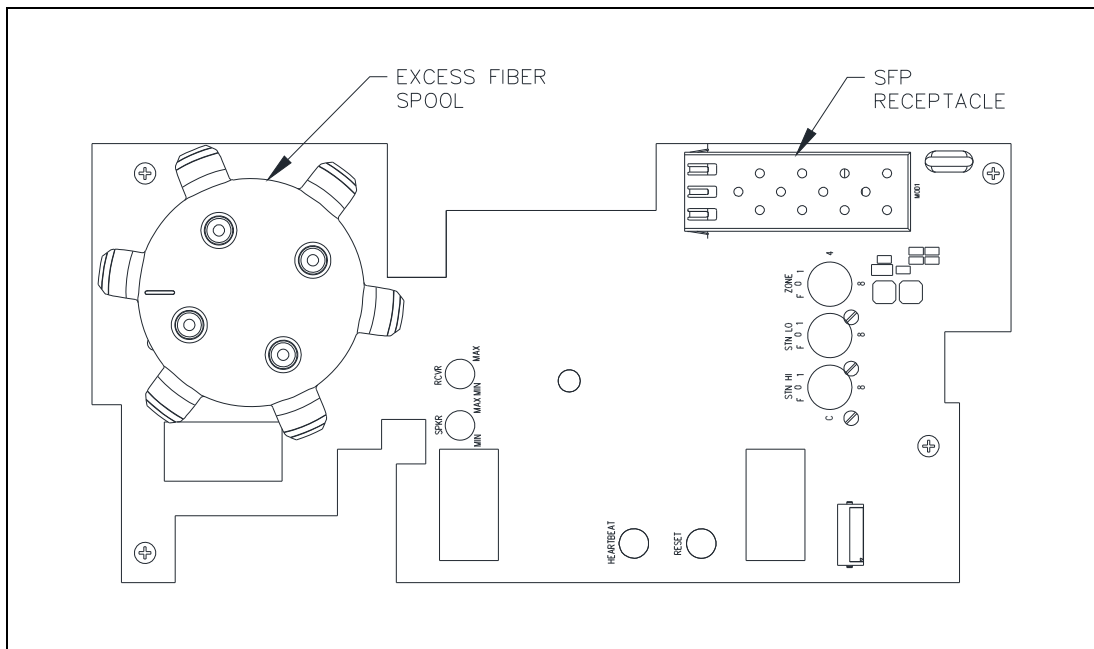
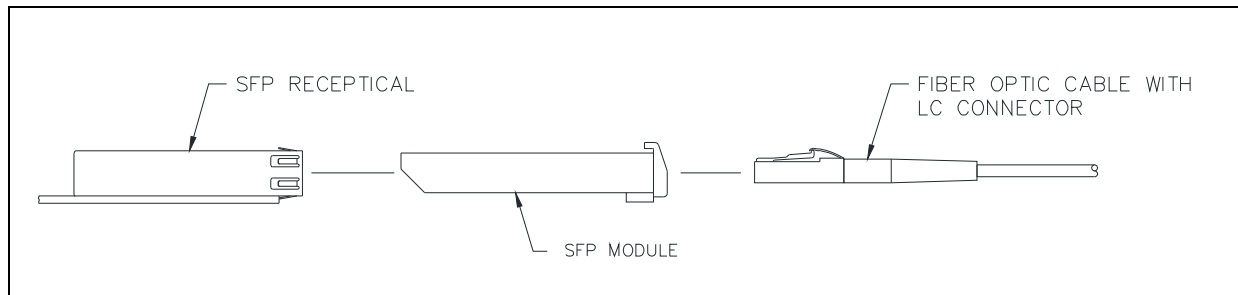

Figure 11. Fiber Termination PCBA
Figure 12. SFP Transceiver Insertion and Fiber Plug-in
The fiber termination PCBA (see Figure 11) is mounted on top of the main PCBA. Exact fiber termination is installation dependent because the fiber optic cable and SFP (Small Form-factor Pluggable) transceivers used in SP2 system installations are customer supplied.
1. Insert the SFP transceiver into the SFP receptacle (see Figure 11 and Figure 12).
4. Plug the fiber connector into the SFP (see Figure 12).